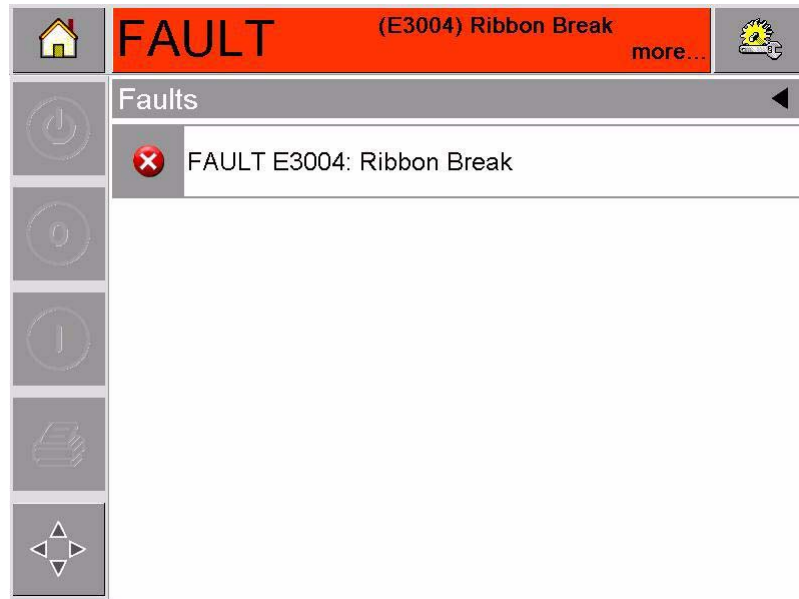

Figure 5-2: Fault Selection
- 1 Touch the red FAULT message to view the list of faults (Figure 5-2 on page 5-3).